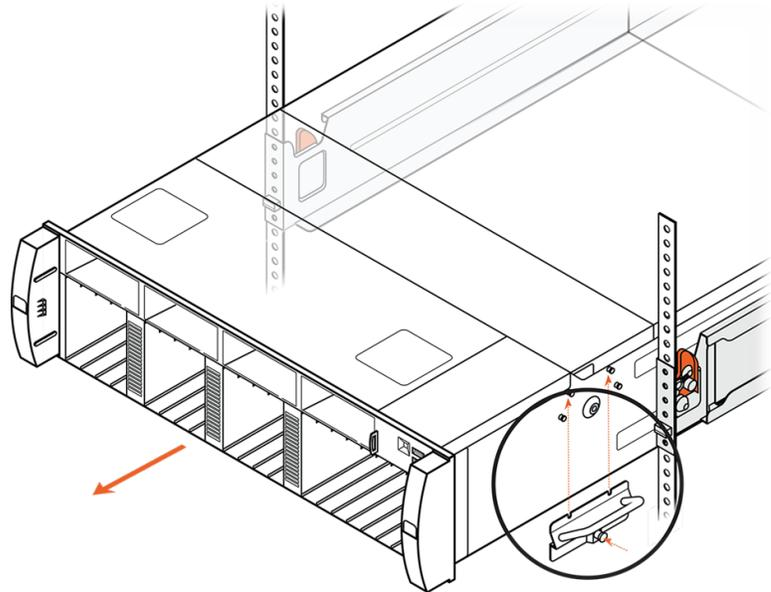

Figure 11-11. Sliding the Chassis on the Rails and Attaching the First Pair of Lift Handles
1. With one person on each side, slide the chassis along the rails until the first set of chassis handle standoffs are exposed. See Figure 11-11.